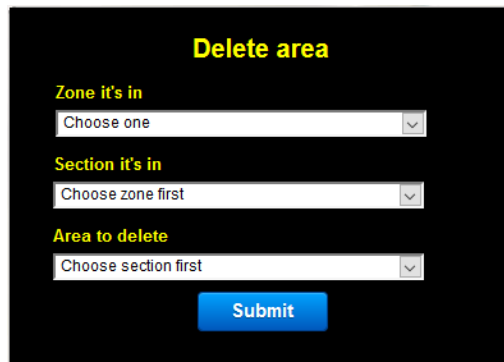

Fig. 21
1. This form allows you to delete a Area.(See fig. 21) If a Area is no longer needed in the logbook you can delete it from your location.